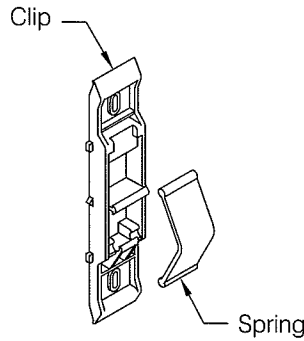
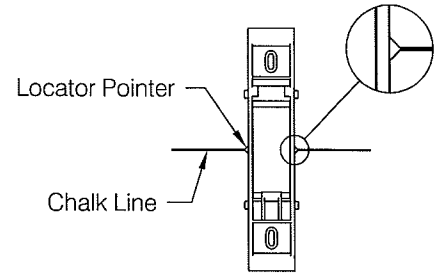
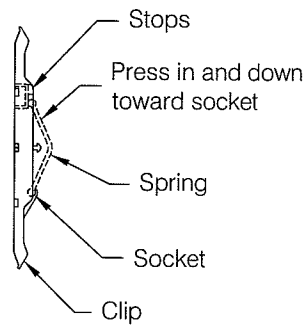

fig 2
fig 3
fig 8
Step 2: Each Red-E-Clip[®] retainer consists of a base or "Clip" and an impact cushion or "Spring" shipped separately, see **fig 2**. Secure clips to wall by aligning the molded location pointers in the clip with the chalk line, see **fig 3**. While the clip may be installed either end up it is recommended that the spring socket be oriented down, see **fig 8**.
Note: Install spring by snapping ball of spring into socket provided in clip. The easiest method is to locate the ball opposite the socket against the "stops" provided in the clip and snap the ball into the socket by pressing the crown of the spring both down and toward the socket, see **fig 8**.